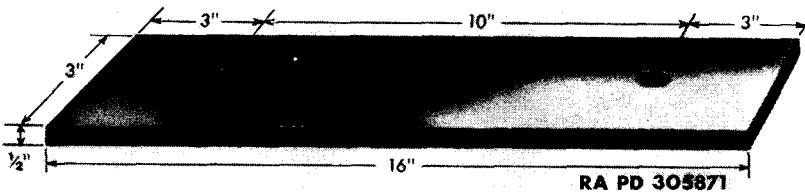
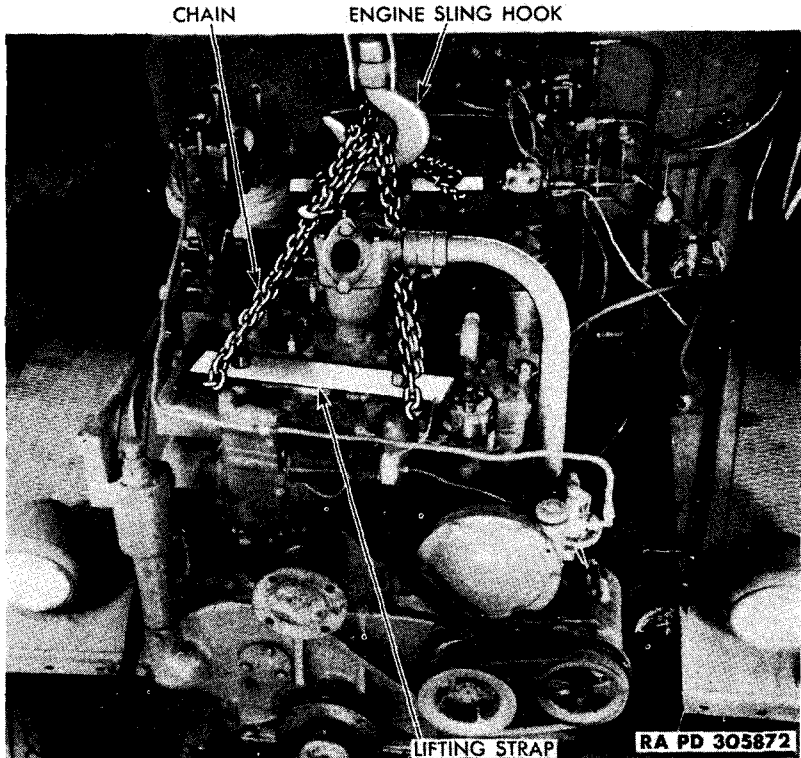

Figure 46—Steel Strap for Hoisting Engine
Figure 47—Removing Engine from Chassis
t. **Attach Engine Hoisting Sling Equipment** (fig. 47). Use engine lifting eye (41-E-629), if available, to remove the engine. However, if the eye is not available an improvised tool (figs. 46 and 47) may be used as described below. Unscrew and remove No. 1 and No. 6 spark plugs and priming cups. Unscrew and lift off the second stud nut from the front, on each side of the engine. Unscrew and lift off the second stud nut on each side, from the rear of the engine. Lay steel straps in position over these studs, install and tighten stud nuts over the studs and plates. Install a 15-foot length of $\frac{1}{4}$ -inch chain in a cross sling under the extended part of the plates, and over a hoist hook. Lift hoist enough to put slight tension on chain and check all fastenings.